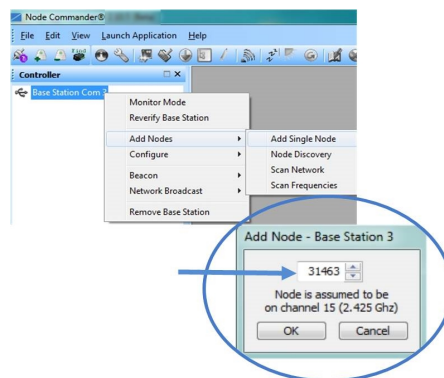

Figure 5 - Adding a Node by Address
1. To add a node by address, right-click on the gateway name in the Controller window, and select Add Single Node (*Figure 5 - Adding a Node by Address*).